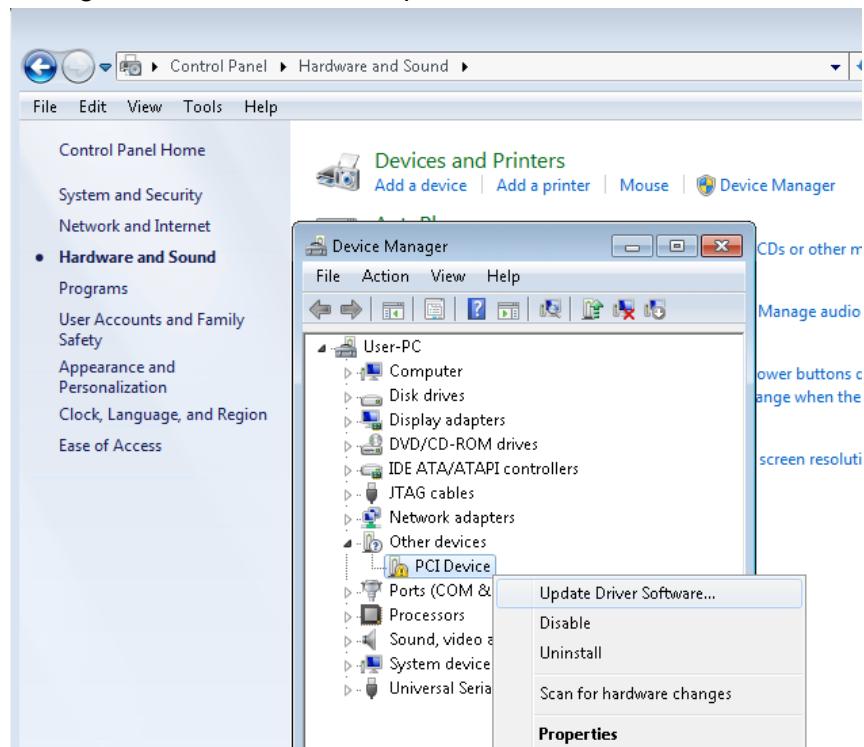

Figure 6-3 Screenshot of launching Update Driver Software... dialog
5. Click the Control Panel menu from Windows Start menu. Click the Hardware and Sound item before clicking the **Device Manager** to launch the Device Manager dialog. There will be a **PCI Device** item in the dialog, as shown in **Figure 6-3**. Move the mouse cursor to the **PCI**